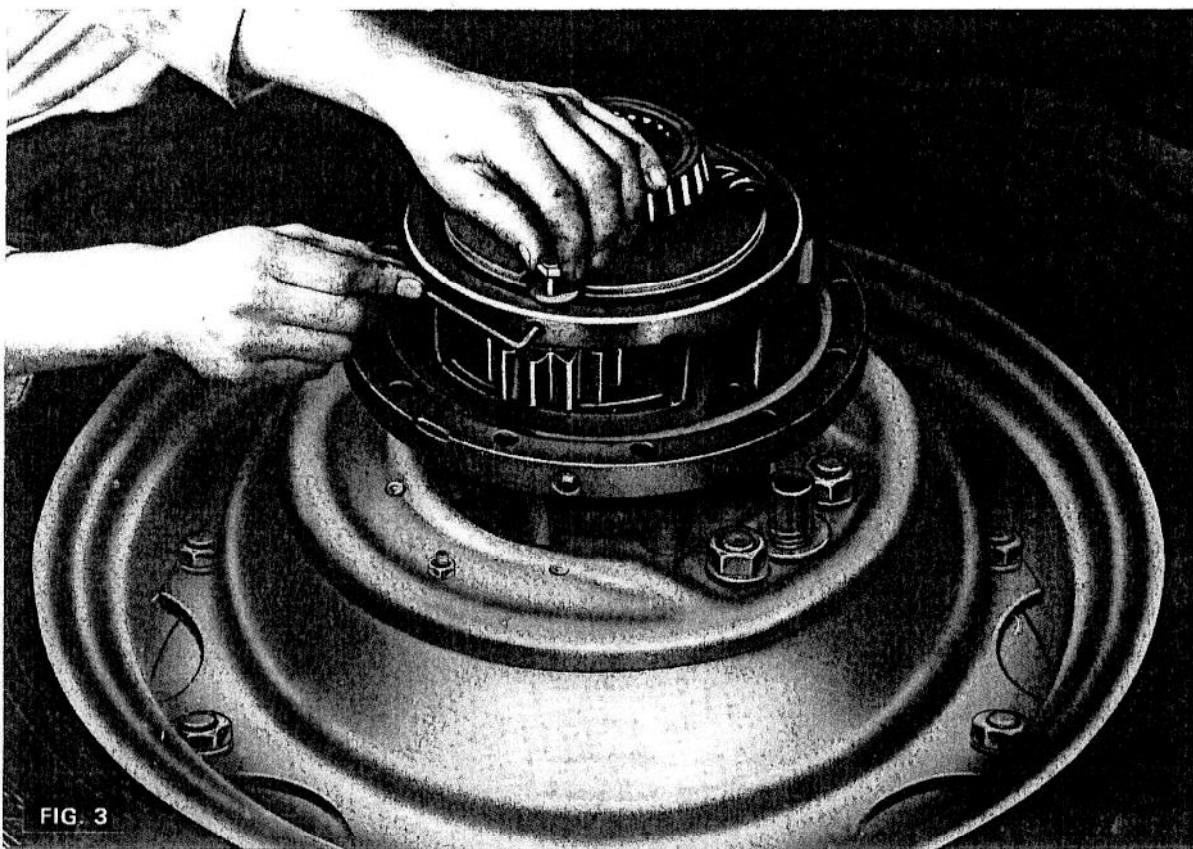

FIG. 3
5. (Fig. 3) Remove the socket screw which secures the pinion shaft carrying the master pinion i.e. the pinion fitted in the widest of the three apertures in the carrier. Screw a bolt into the tapped hole in the end of the planet gear shaft.